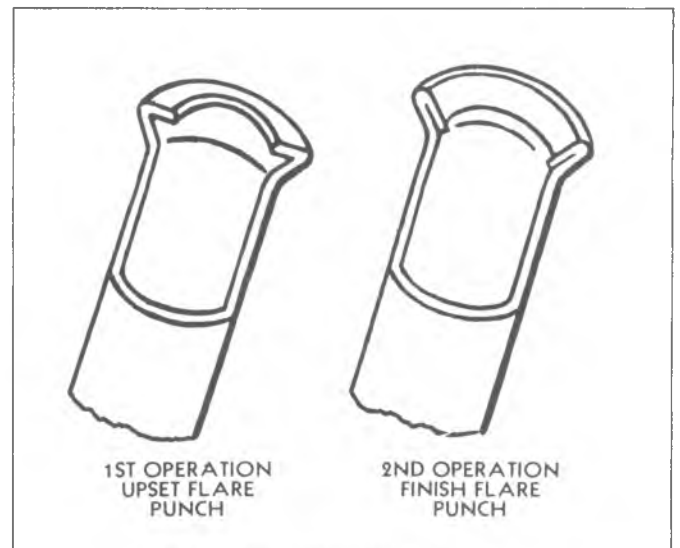

Fig. 38--First and Second Flare
7. To complete the flare, insert the pointed finish flare punch and the ram into the tool body. Tap the ram until a good seat is formed (fig. 38).